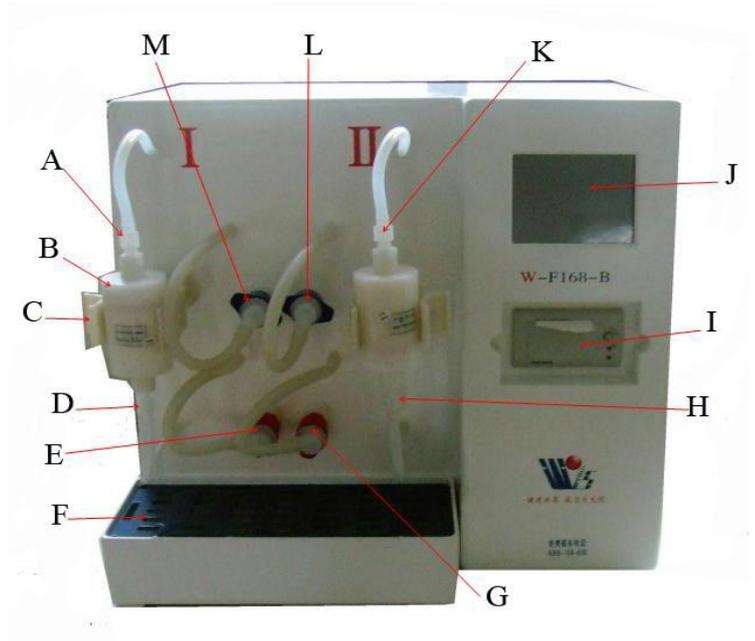

Figure 7-1
7.1 Front View: (Figure 7-1)
- A. Blood Chamber Inlet for Set (I)
- D. Blood Chamber Outlet for Set (I)
- E. Dialysate Chamber Inlet for Set (I)
G. Dialysate Chamber Inlet for Set (II)
H. Blood Chamber Outlet for Set (II)
8.6 Take out the inlet and outlet tubes of blood chamber and dialysate reflux chamber, suction tube of disinfectant, inlet tubes of RO water and outlet tubes of waste water, then connect them with the corresponding port strictly as shown in Figure 7-1,7-2.
8.11 Connect all tubes well (Figure 7-1) on machine and check before power on.
Please connect all tubes well with the machine after dismantling the dialyzer!!!(Figure 7-1)